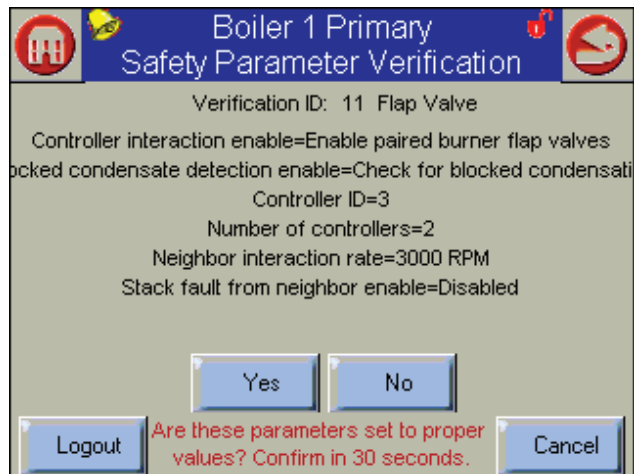

Fig. 78 – Safety Parameter Confirmation
10. The system will present a listing of a group which includes the parameter you changed (the flap valve ID). See Fig. 78.